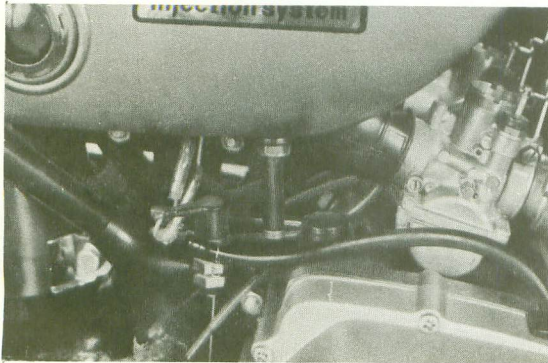

Fig. 4-1-15
10. Disconnect the oil line from the oil tank bottom. (Fig. 4-1-15)